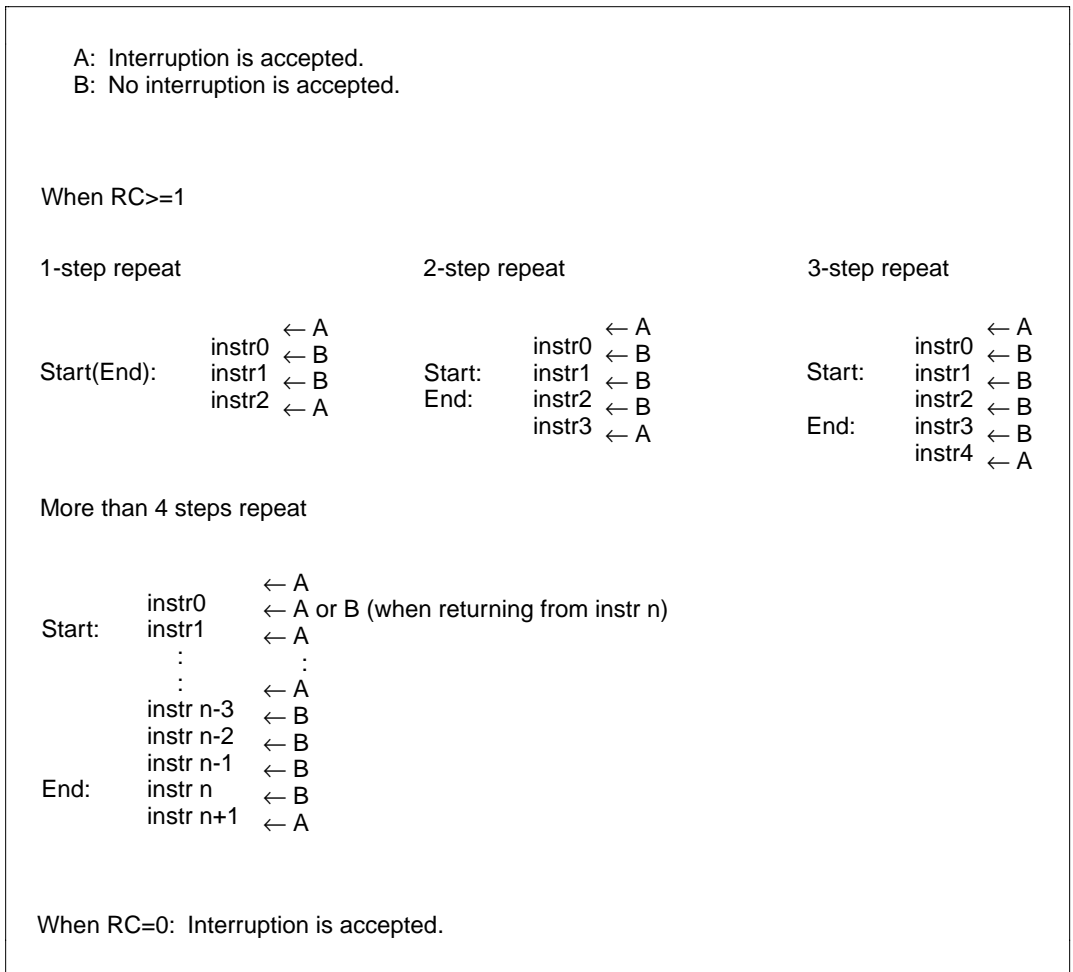

Figure 5-18 Restriction on Acceptance of Interruption by Repeat Module
The repeat start register (RS) holds the start address of the repeated section. The repeat end register (RE) holds the ending address of the repeated section. (There are some exceptions. Refer to Note 1, Actual programming, in this section [below figure 5-18].) The repeat counter (RC) holds the repeat count. The procedure for executing repeat control is shown below:
10. While the repeat is being executed, interruption is restricted. Figure 5-18 shows the flow for each stage of EX. The initial EX stage of interruption is usually started immediately after the EX stage of the instruction is completed (indicated by "A"). "B" in the figure below indicates locations where no interruption is accepted.